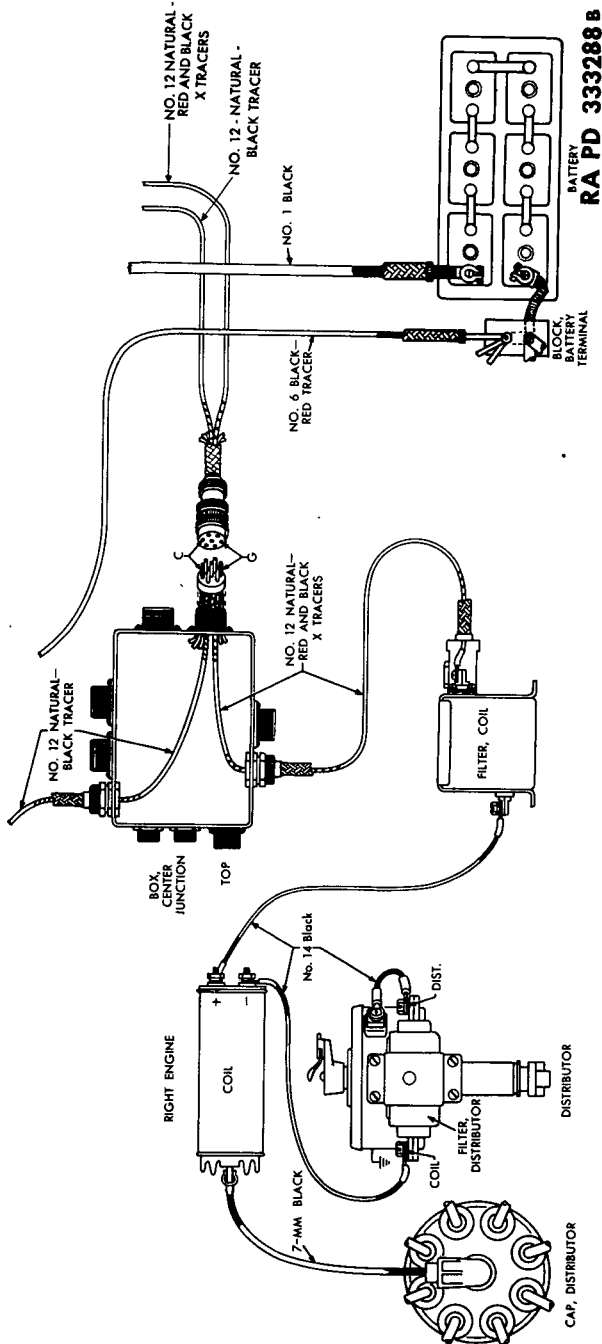

Figure 47 — Ignition System Wiring Diagram
a. Two identical, but completely independent ignition systems are used, one for each engine. Each system consists of an ignition coil mounted on the engine compartment side of the bulkhead; a timer inside the distributor housing which interrupts the low-tension (12-volt) current from the battery; a condenser, also located in the distributor housing, which, acting with the timer, produces a high-tension voltage in the secondary circuit of the coil; a distributor which directs the high voltage to each of the spark plugs in turn; the spark plugs themselves which ignite the fuel mixture; the resistor and filters which minimize electrical interference with the radio equipment; and the necessary wiring to connect these units. The wiring diagram of the ignition system is given in figure 47.